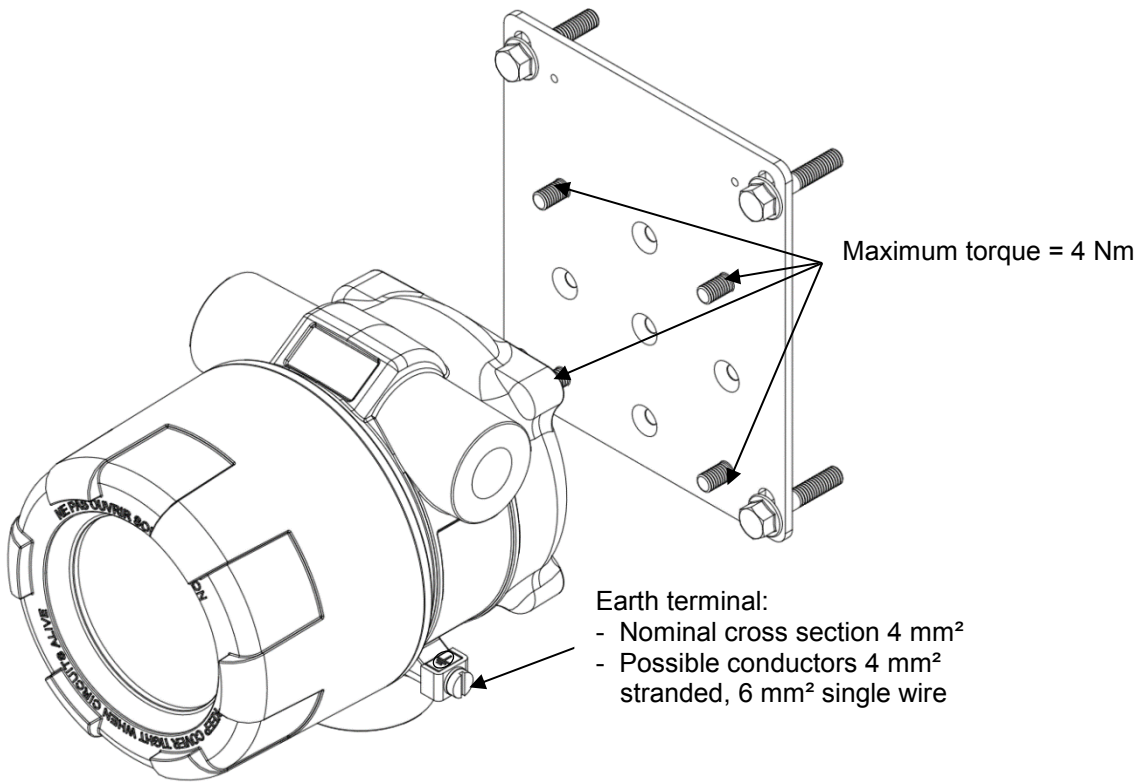

Fig. 8: Installation – Plate mounted
5.3.1 Fig. 8: Dimensions aluminum / Stainless Steel enclosures